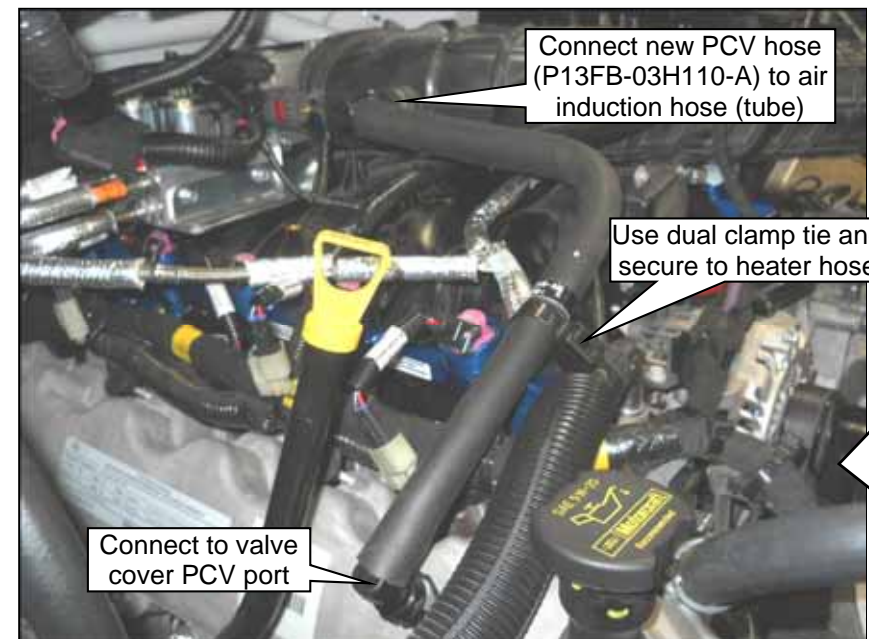

Figure 12.4
5. Install the new PCV hose (found in hardware kit P13FB-ENGKIT-A) to the air induction hose (tube) on the right near the throttle body. Push the quick-connect onto the fitting. Push the lower end of the PCV hose onto the fitting (port) of the valve cover. Secure the PCV hose to the heater hose using a dual clamp tie to ensure the PCV hose is secure and slopes downward. **Figure 12.4.**